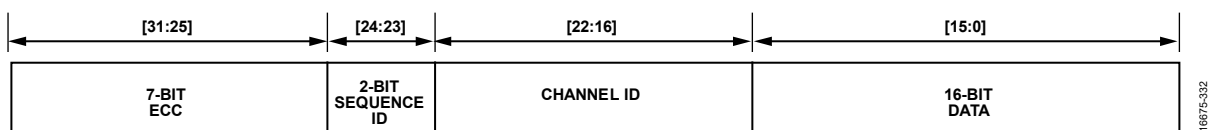

Figure 32. Data FIFO Word Format
The format of data FIFO words is shown in Figure 32. Each word in the data FIFO is 32 bits. The seven MSBs are the ECC required for functional safety applications. Bits[24:23] of the data FIFO word form the sequence identification (ID) and indicate which sequence, from SEQ0 to SEQ3, the result came from.
The 16 LSBs of the data FIFO word are the actual data (see Figure 32).